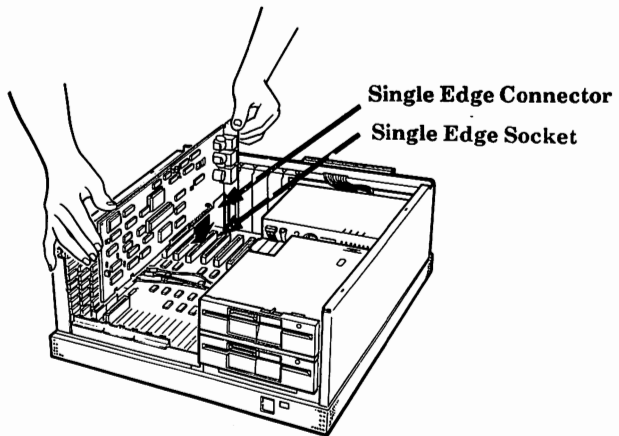

Figure 2-5. Installing the XC 22 board
8. Move the colored wires that cross the socket away from the socket itself. Position the wires so that they will be either beneath or above the XC 22 board when it is installed (Fig. 2-5).
9. Hold the board by the edges as you align the edge connector over the socket (Fig. 2-5).